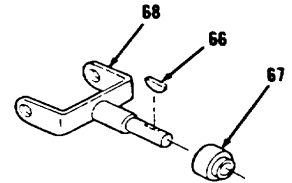
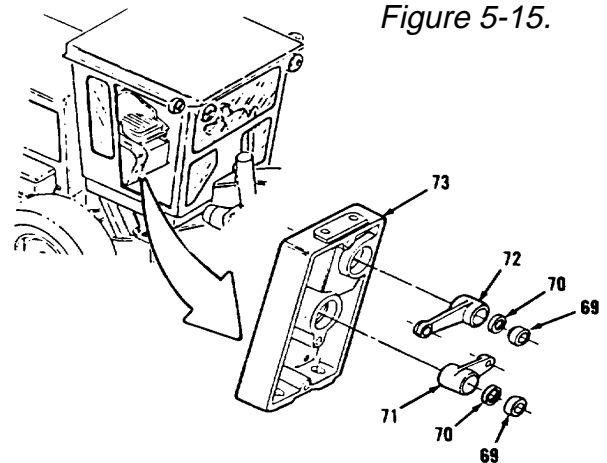

Figure 5-15.
Figure 5-16.
30. Remove key (66) and bearing (67) from shaft (68, Figure 5-15).
31. Remove two bearings (69), rings (70), levers (71 and 72) from housing (73, Figure 5-16). Tag levers (71 and 72) as to their location in housing (73) to aid in installation.
1. Position levers (72 and 71) in housing (73, Figure 5-16) on right side of operator's compartment.
2. Install two rings (70) and bearings (69).
3. Install bearing (67) and key (66) on shaft (68, Figure 5-15).